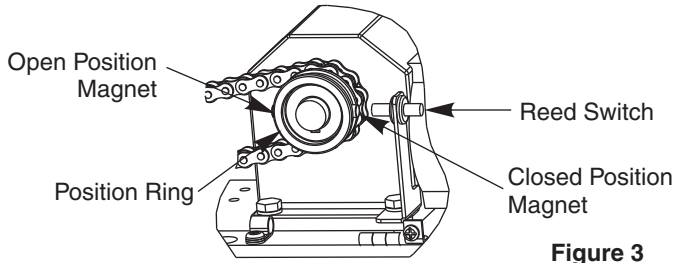

Figure 3
Step 5: Adjust Closing Position Magnet (See Fig. 3) - With door in the closed position, use finger to slide Closed Position Magnet so it aligns directly with the Reed Switch.